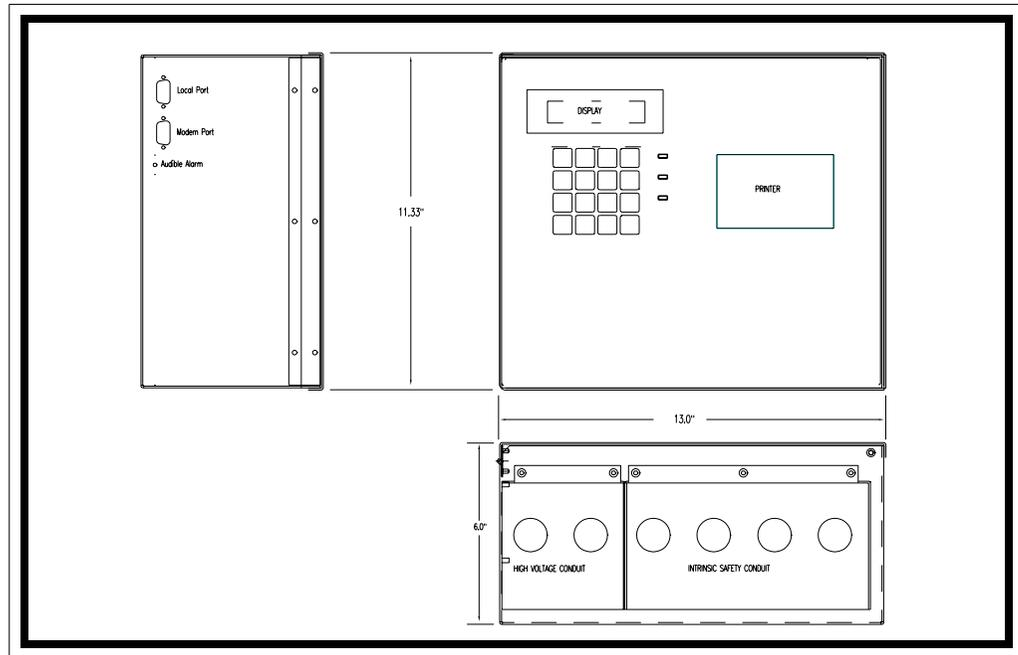

Figure 3: Console Exterior Dimensions
Conduit knockouts are shown in *Figure 3*.
2. Install 3/4-inch conduit between one of the high voltage conduit openings in the console (*Figure 3* on page 6) and the AC power distribution panel.
- *Figure 3* on *page 6* gives conduit openings for connection to the standard relay contacts.
The modem and local ports are in the left side of the console (*Figure 3* on *page 6*)